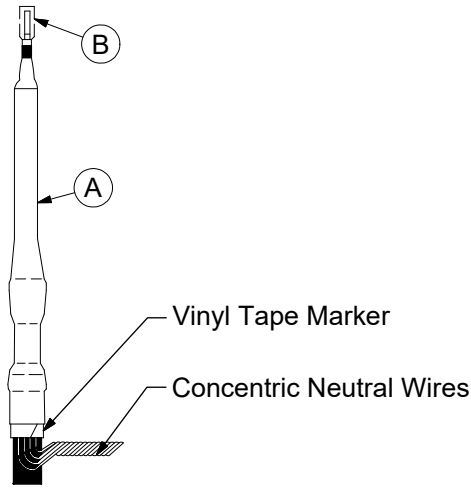

Figure 5
- Collect all neutral wires together and connect to system ground. See Figure 5.